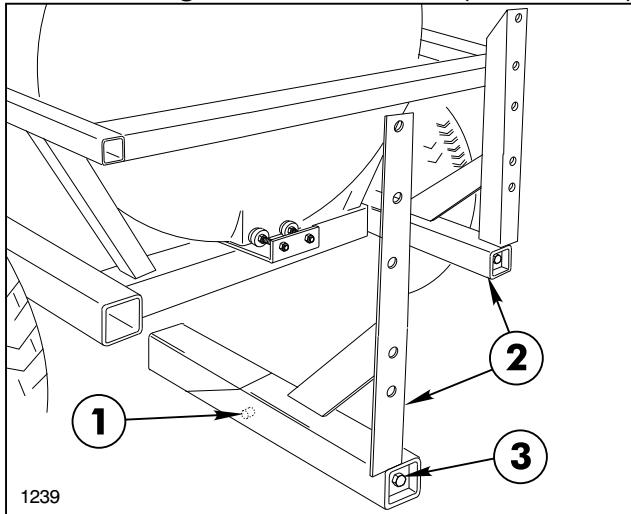

FIG. 11
2. Apply a heavy coating of grease to the tubes of the two Boom Mount Assemblies and insert them into the Saddle Assembly until support angle bottoms out against Vehicle Frame. (See FIG. 11.)